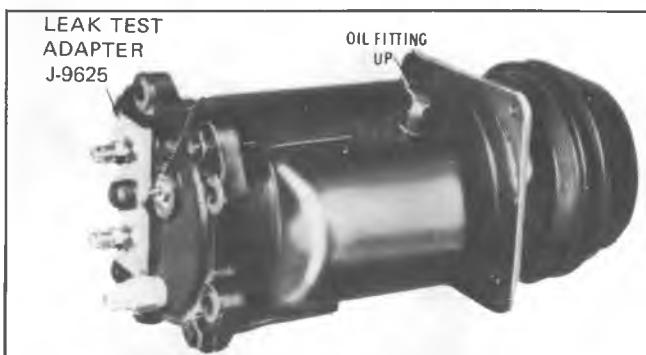

Fig. 22--Leak Testing A-6 Compressor
6. Install Compressor Leak Test Fixture J-9625 on rear head of compressor and connect gage charging lines as shown for bench test in Fig. 22 or pressurize SUCTION SIDE of compressor on car with Refrigerant-12 vapor to equalize pressure to the drum pressure. Temporarily install the shaft nut and, with compressor in horizontal position and oil sump down, rotate the compressor shaft in normal direction of rotation several times by hand. Leak test the seal with a Leak Detector. Correct any leak found. Remove and discard the shaft nut.